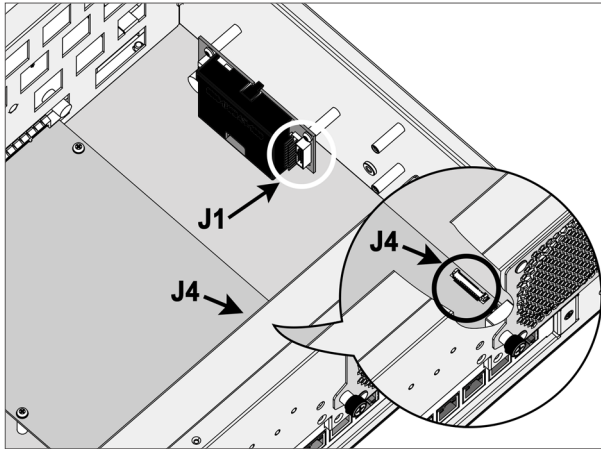

Figure B-7, Insert the cable connector into J1 & J4
3. Insert the cable connector into the **J1** (12-pin box header battery connector on ARC-6120-BAT-12G module), and also insert another side of the cable connector into the **J4** (14-pin box header battery connector on ARC-5088 backplane), as shown in Figure B-7.